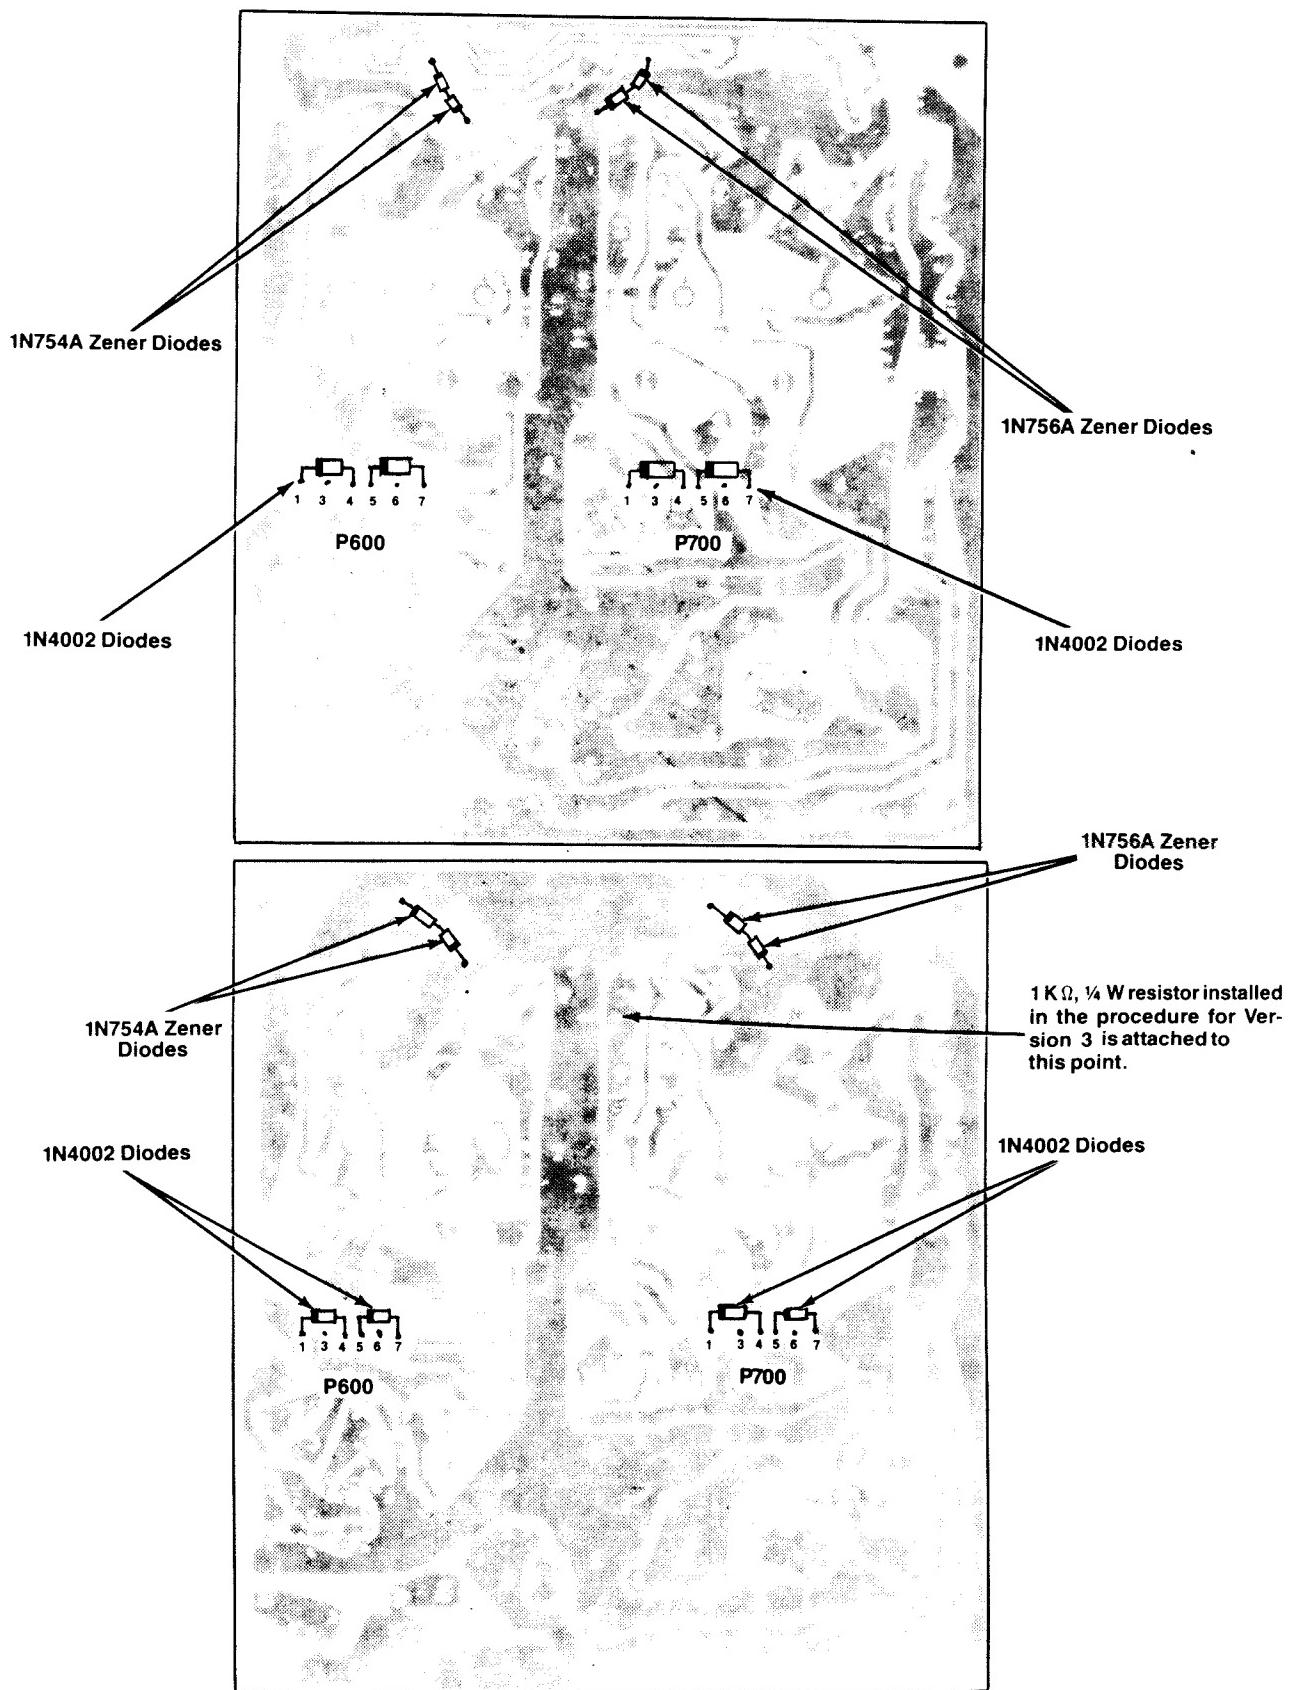

Figure 7 Modifying the Wells-Gardner Deflection PCB
4. Examine the soldered side of the Deflection PCB removed from the display and determine which of the two PCBs shown in Figure 7 matches your PCB.
6. Solder one cathode lead of the two type-1N754A Zener diodes (soldered together in step 2) to the yellow lead on the soldered side of the PCB as shown on the appropriate illustration in Figure 7.
7. Solder the other cathode lead of the two type-1N754A Zener diodes to ground as shown on the appropriate illustration in Figure 7.
9. Solder one cathode lead of the two type-1N756A Zener diodes (soldered together in step 3) to the orange lead on the soldered side of the PCB as shown on the appropriate illustration in Figure 7.
10. Solder the other cathode lead of the two type-1N756A Zener diodes to ground as shown on the appropriate illustration in Figure 7.
12. Solder the cathode lead of a type-1N4002 diode to pin 1 and the anode lead to pin 4 of connector P600 on the soldered side of the PCB as shown on the appropriate illustration in Figure 7.
13. Solder the cathode lead of a type-1N4002 diode to pin 5 and the anode lead to pin 7 of connector P600 on the soldered side of the PCB as shown on the appropriate illustration in Figure 7.
15. Solder the cathode lead of a type-1N4002 diode to pin 1 and the anode lead to pin 4 of connector P700 on the soldered side of the PCB as shown on the appropriate illustration in Figure 7.
16. Solder the cathode lead of a type-1N4002 diode to pin 5 and the anode lead to pin 7 of connector P700 on the soldered side of the PCB as shown on the appropriate illustration in Figure 7.
2. Locate the wire connected to resistor R1 (22 kΩ) and the collectors of transistors Q1 and Q3 (type 2N3904) on the Input Protection Circuit PCB and the point shown in Figure 7 on the Deflection PCB.